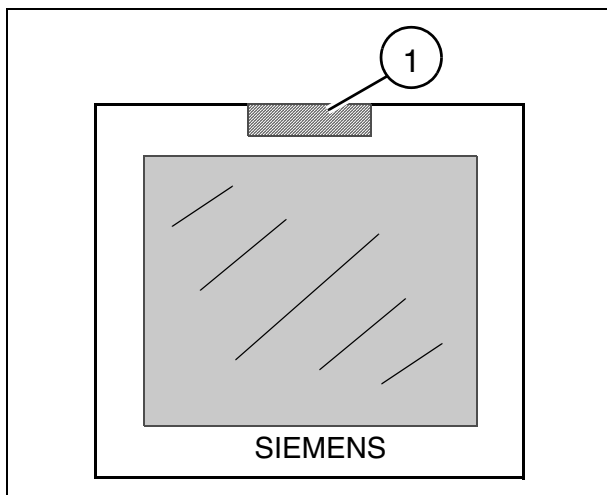

Fig. 4
- Affix the supplied "LITHOSTAR MODULARIS" label to the monitor of the ultrasound unit (1/Fig. 4) (this label serves for identifying which ultrasound unit operates together with the LITHOSTAR MODULARIS).